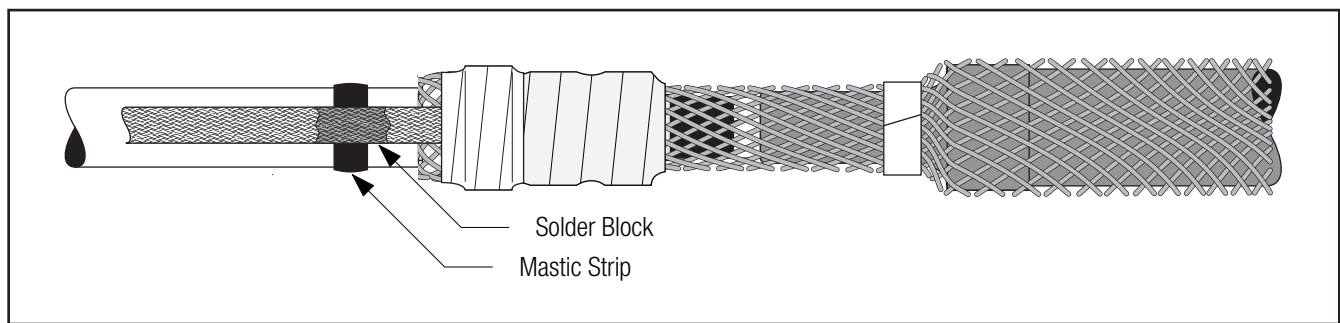

Figure 39
7.4 Place one mastic sealing strip on the cable jacket under the solder blocks of the ground strap (Figure 39).